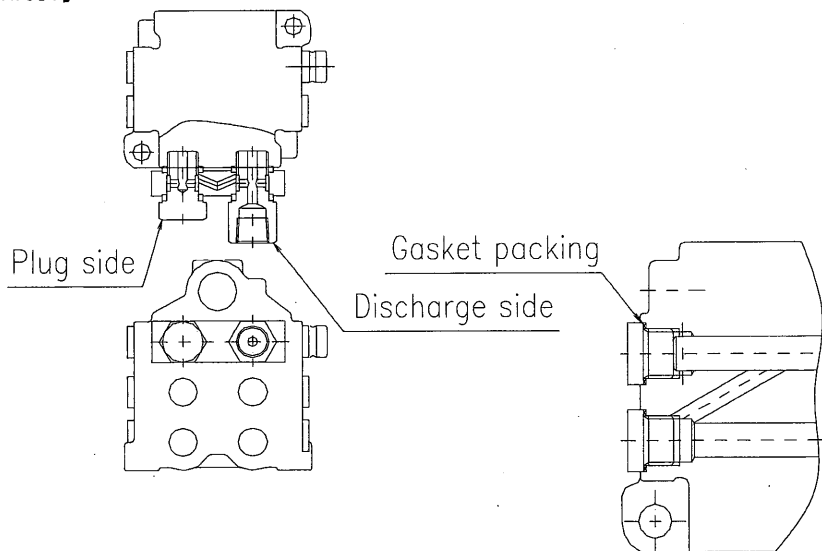

Figure 1
- 2) When operating odd number of discharge ports, or the discharge amount should be doubled, use the exclusive collective attachment, for collection of two ports T322. (Refer to figure 1 below)